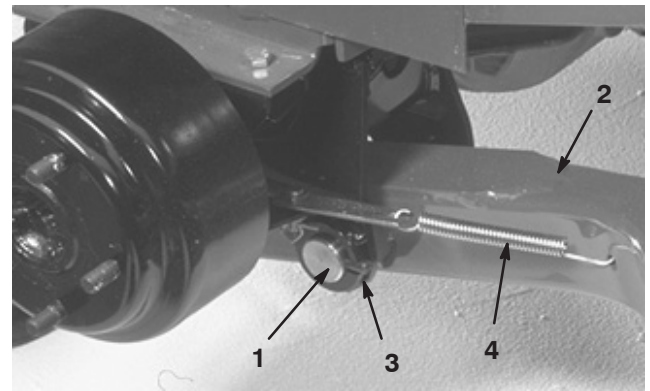

Figure 2
4. Mount a lift arm to the pivot bracket with a pivot pin and cotter pin (Fig. 2). The lift arms ends are to be positioned so the ends curve outward.
5. Mount the rear of the lift arm to the lift cylinder with a pivot pin and (2) cotter pins (supplied with the traction unit).
6. Hook the brake return spring to the hole in the lift arm (Fig. 2).